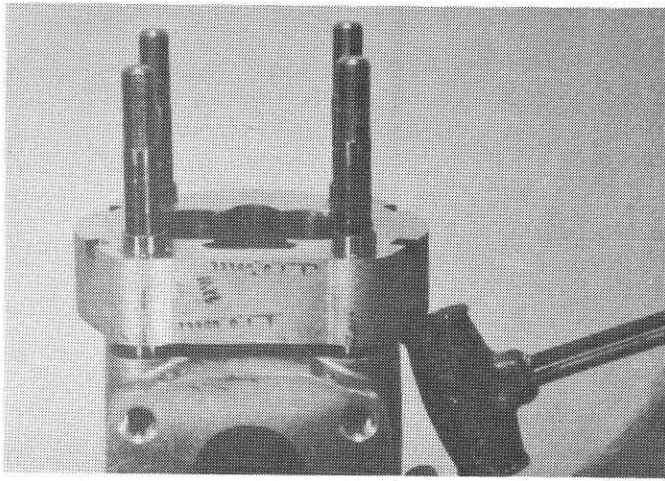

FIG. 9
11. Remove gear plate (4) by tapping on its exposed edges while holding the bearing plate. After it loosens, it can be lifted off. (Fig. 9)